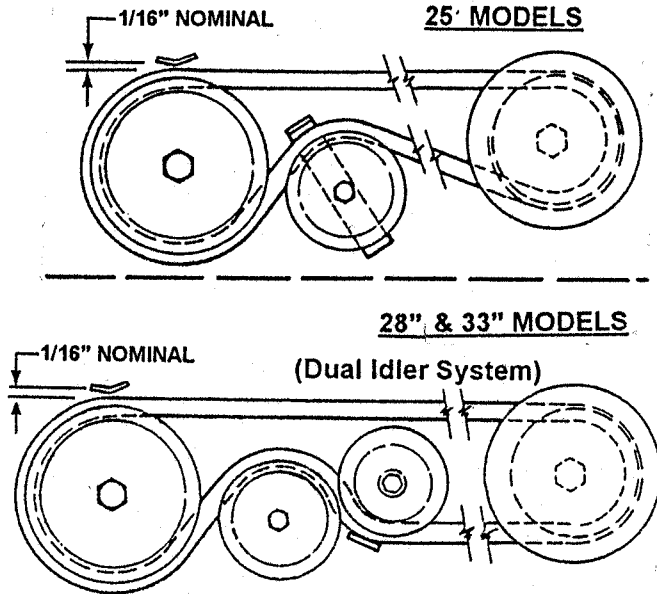

FIGURE 4.24
9. Adjust belt guide. See Figure 4.24 for proper belt-to-belt guide clearances.